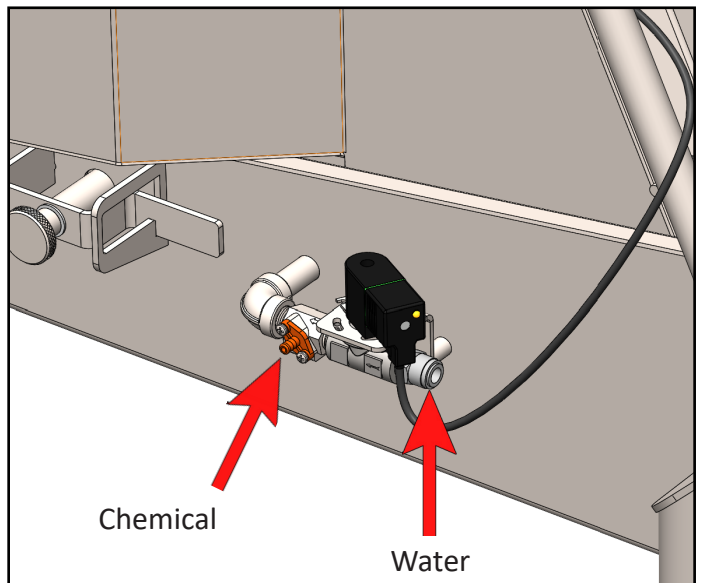

Fig. 5.2: Water and Venturi Injector (solution) inlets
1. Connect water source to solenoid valve fitting inlet (located on the side of the unit). Fitting is 3/8" [Figure 5.2].
2. Connect the solution source to the hose barb of the Venturi Injector (located after water inlet) using 1/4" PVC tubing [Figure 5.2].